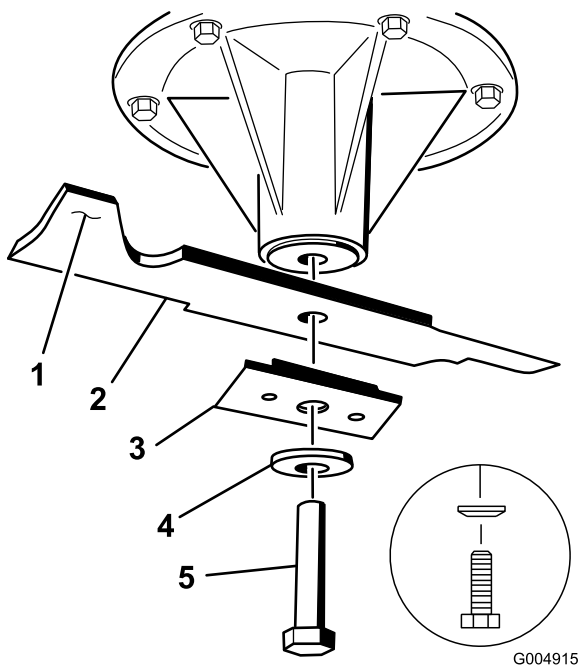

Figure 57
3. For 36 and 52 inch mower decks, remove the blade bolt, curved washer, blade stiffener, and blade from the spindle shaft (Figure 57).
3. For 36 inch and 52 inch mower decks, install the blade, stiffener, curved washer, and blade bolt (Figure 57).